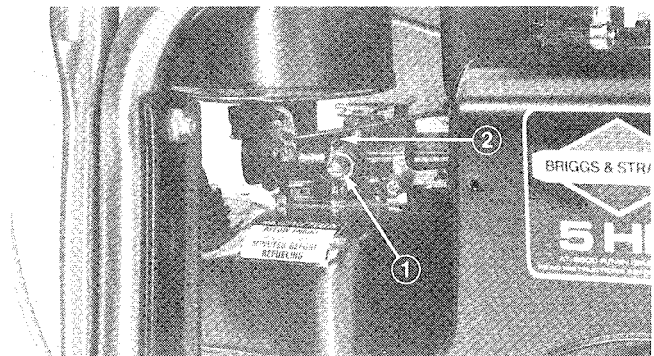

Figure 23
1. Needle Valve — Close valve by gently rotating it clockwise (Fig. 23).
Note: Rotate idle adjusting screw clockwise to increase idle rpm. By contrast, rotate idle adjusting screw counterclockwise to decrease idle rpm (Fig. 23).